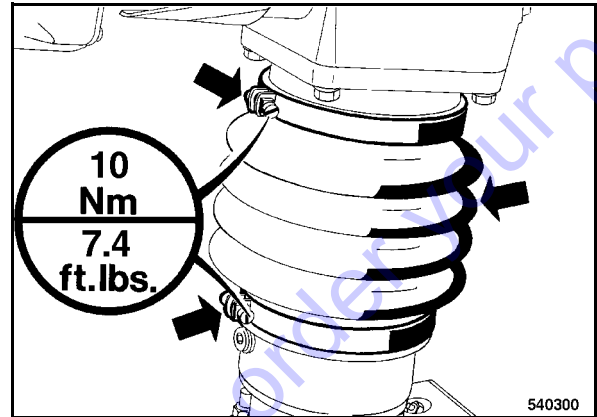

Fig. 31
- Check the hose clamps for tight fit (Fig. 31).